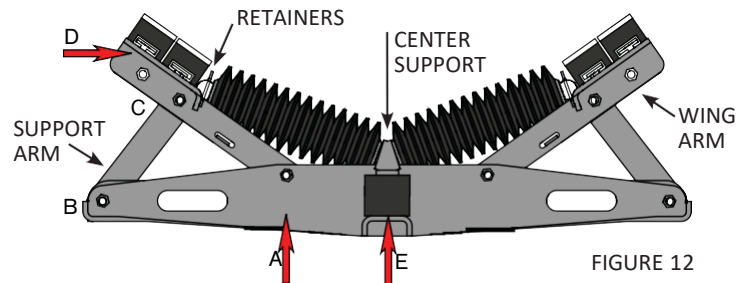
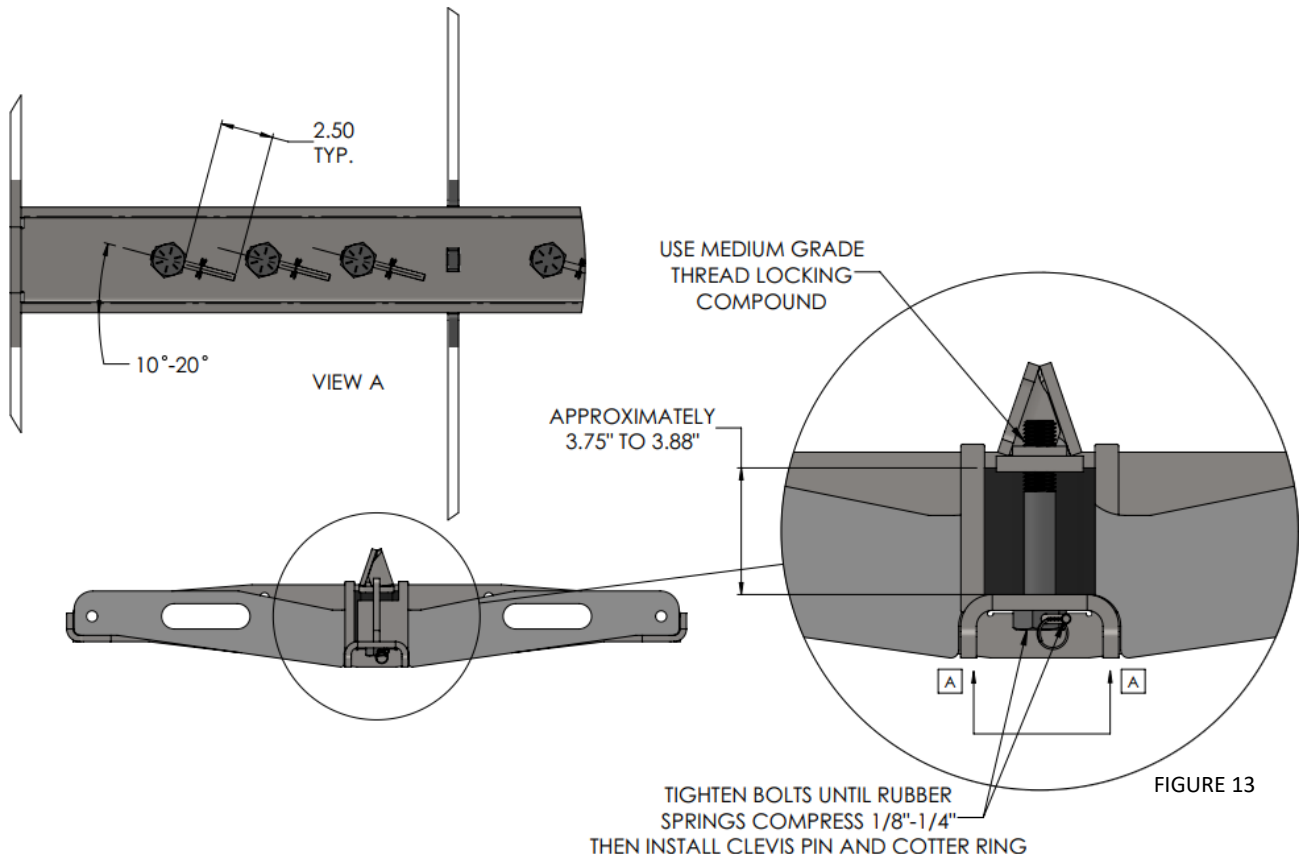

FIGURE 12
FIGURE 13
2. Remove the large bolts from underneath the Trougher Impact System shown in figure 12 at location E. To remove these bolts, first remove the roll pin from the head of the bolt. See figure 13.
7. Once the bolts have been tightened, install the clevis pins into the head of each bolt. This can be accomplished when the hole in the bolt head is 10-20 degrees from the center axis of the U-channel (See figure 13 below). Then insert a cotter ring into first hole of each clevis pin.